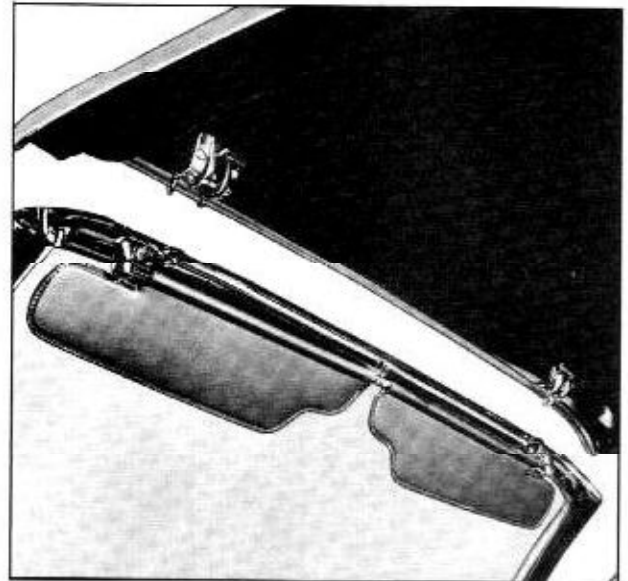

Fig. 17-103 Disengaging Top From Header
3. Raise front of top to disengage front roof rail from windshield header. (Fig. 17-103)